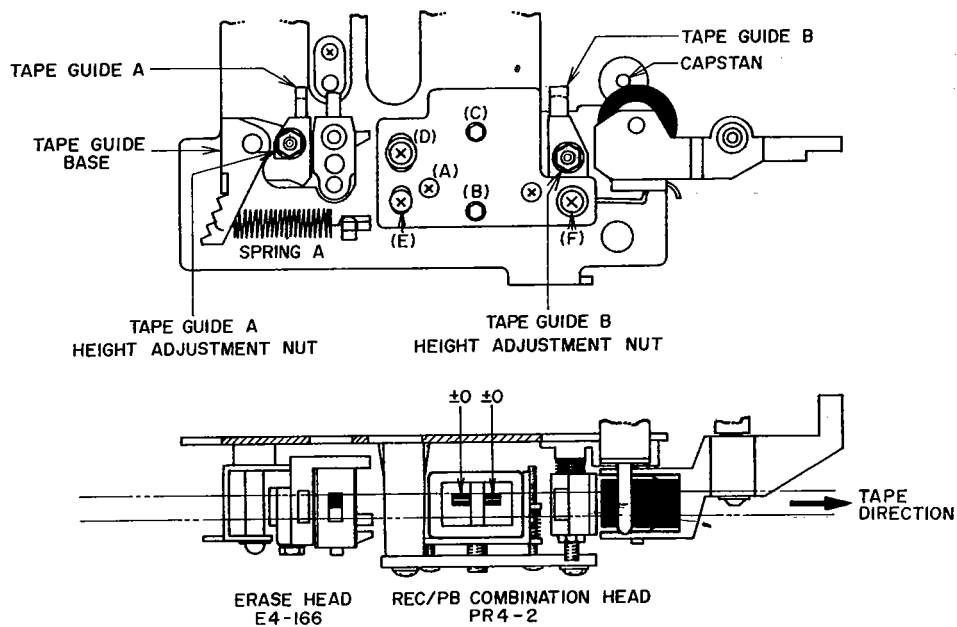
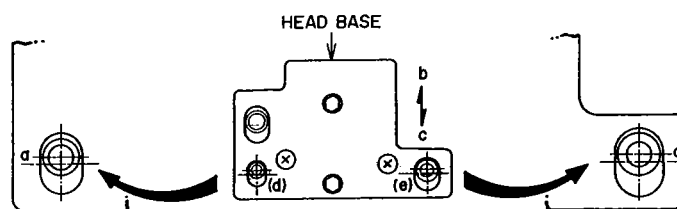
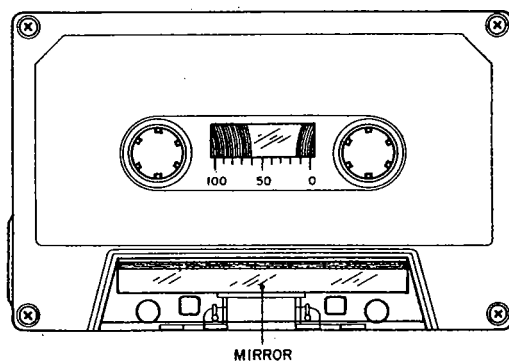

Fig. 7
Fig. 8
Fig. 9
(Refer to Fig. 7 and Fig. 9)
- 1) When using an ordinary cassette, the tape guides and heads, etc. are not visible. As shown in Fig. 9 use a cassette tape from which part of the cassette case has been cut out and a mirror installed for easy visibility of the head area when making tape guide height adjustment.
2. HEIGHT ADJUSTMENT OF RECORDING/PLAYBACK COMBINATION HEAD (Refer to Fig. 7)
- 2) As shown in Fig. 7 adjustment head height with screws (A), (B) and (C) until the upper edge of the left channel REC/PB Combination head core.
3. AZIMUTH ALIGNMENT ADJUSTMENT OF RECORDING/PLAYBACK COMBINATION HEAD (Refer to Fig. 7)
4. ADJUSTMENT OF THE RECORDING/PLAYBACK COMBINATION HEAD PROJECTION (Refer to Fig. 7 and Fig. 8)
- 1) Fix the head base with screws (D) (E) and (F). In doing so, the center of the shaft should be placed at points (a) of head base holes (d) and (e) as shown in Fig. 8. Conduct adjustments 2 and 3 above.
- 5) If there is a level fluctuation, the projection of the recording/playback combination head is too shallow and the head base must be moved slightly toward "b" in Fig. 8.
4. When a mirror installed cassette test tape as shown in Fig. 9 is required, it can be ordered from AKAI Electric Co.
5. The position where spring (A) meets the tape guide base is adjusted at the place of manufacture and readjustment is unnecessary.